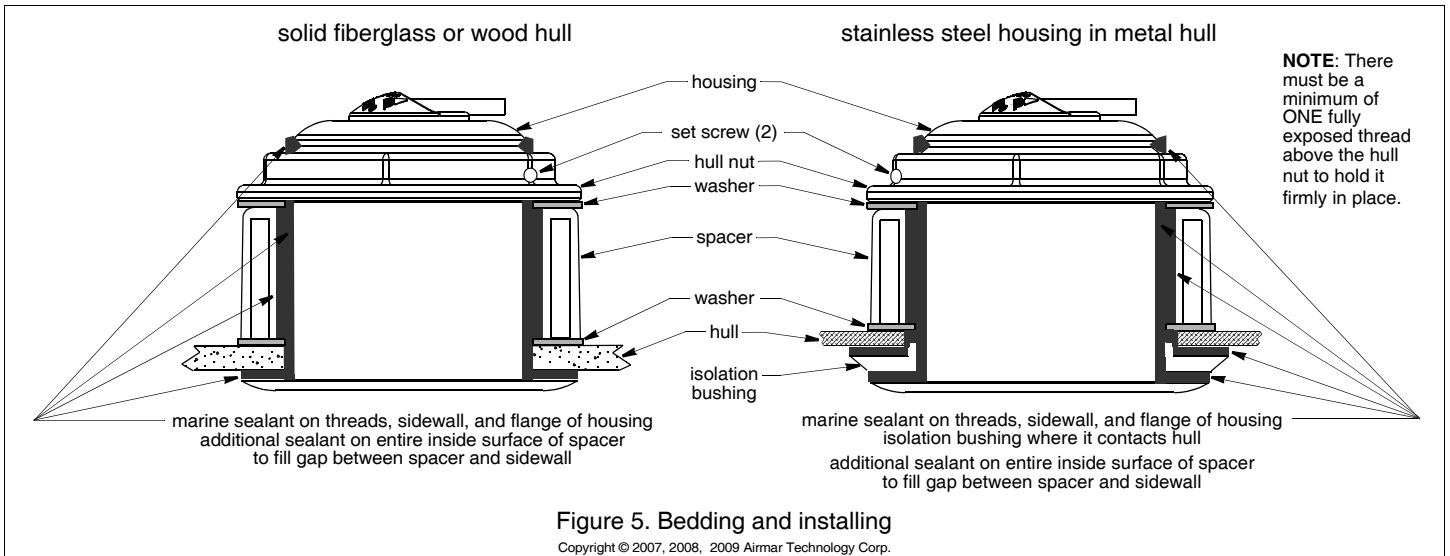
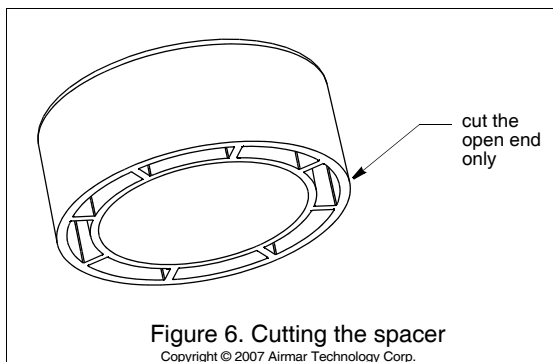

Figure 5. Bedding and installing
Figure 6. Cutting the spacer
4. Dry fit the sensor to determine if the spacer must be cut. From outside the hull, push the housing through the mounting hole (see Figure 5). From inside, slide one of the washers onto the housing. Slide the spacer onto the housing with the open end facing the hull. Add the remaining washer. *Be sure a minimum of **THREE** threads are showing on the housing above the washer.* If not, cut the spacer to make it shorter. When cutting the spacer, *be sure to cut the open end* (see Figure 6).
1. Apply a 4 mm (1/8") thick layer of marine sealant to the flange, sidewall, and threads of the housing (see Figure 5). The sealant must extend 12 mm (1/2") higher than the combined thickness of the hull, spacer, and hull nut. This will ensure there is marine sealant in the threads to seal the hull and to hold the hull nut securely in place.
2. Slide one of the washers onto the housing (see Figure 5). Slide the spacer onto the housing until the open end rests against the washer. Add the remaining washer. **Be sure a minimum of THREE threads are showing on the housing above the washer.** If not, make the spacer shorter by cutting the *open end* (see Figure 6).